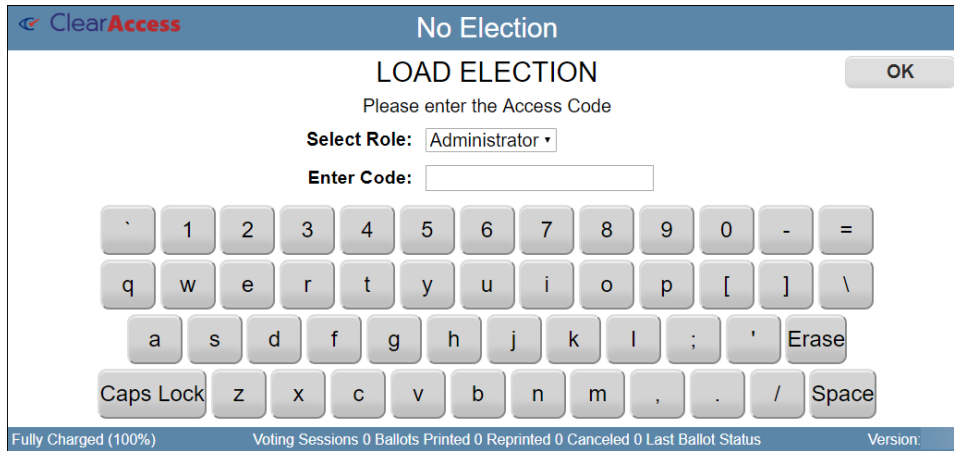

Figure 5-11. Entering the Administrator Code on the Load Election screen
2. On the ClearAccess Load Election screen, select **Administrator** from the Select Role drop-down list, enter the administrator code in the **Enter Code** field, and click **OK** (Figure 5-11).